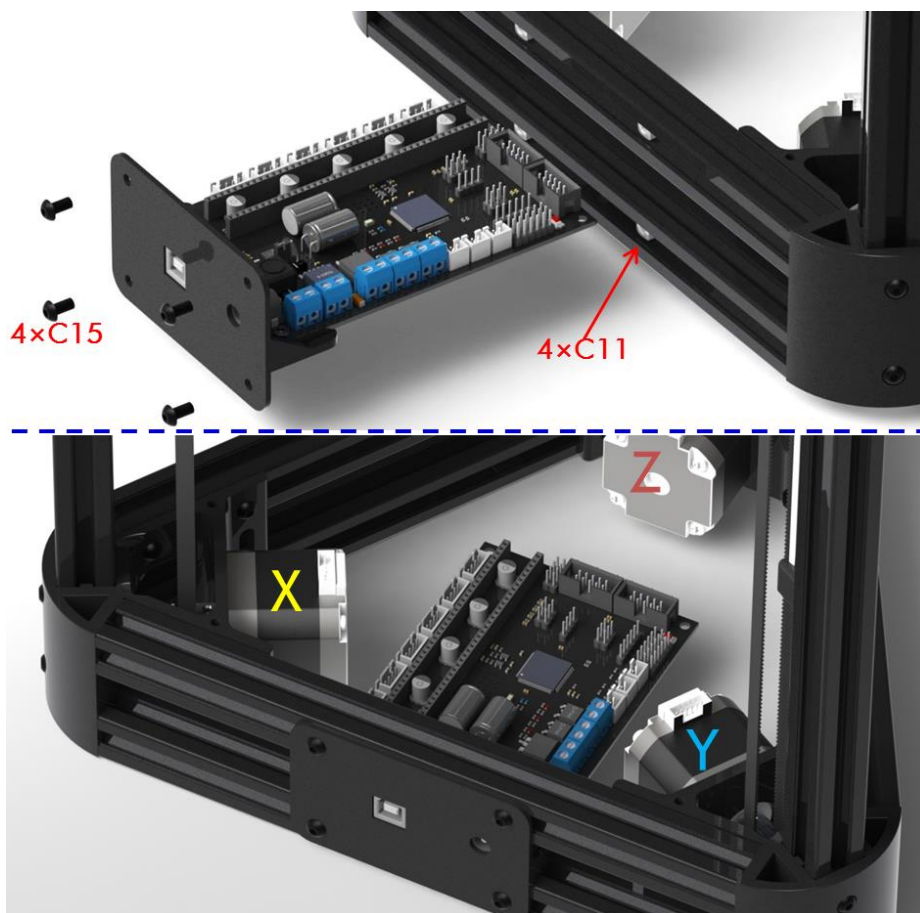

Fig. 28
Step 3. As shown in Fig. 28, mount 4 pieces of square nuts (C11) into the corresponding position on bottom Al extrusion, and fix ANYCUBIC mainboard using 4 pieces of C15. *Note:* in Fig. 28, 3 motors are named as X, Y, Z respectively in order to make the wiring/interpretation clearer in the following paragraph. The assembly position of ANYCUBIC mainboard could be referred to those 3 motors.